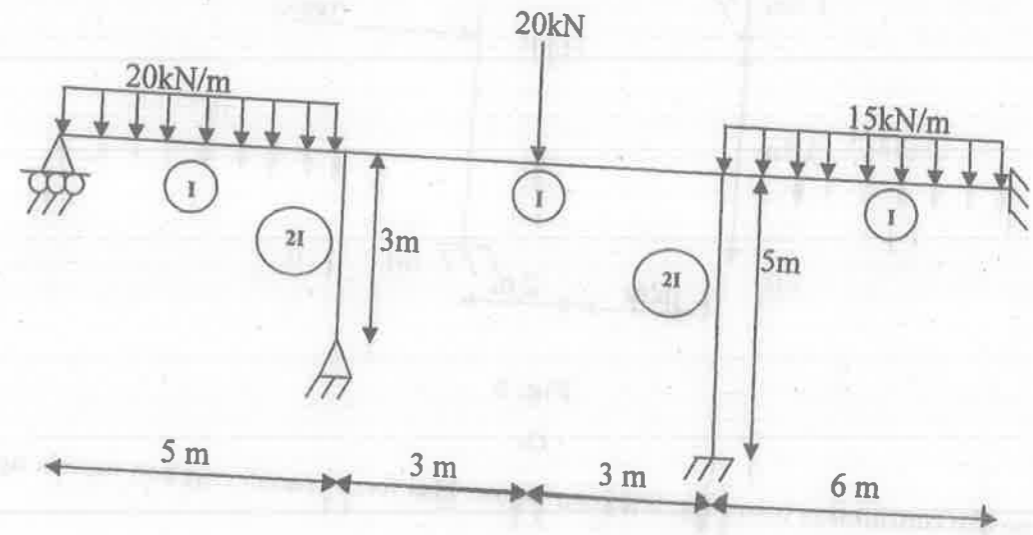

Fig. 6
14. Determine the end moment draw the moment diagram for the frame shown in fig. 6 Using moment distribution method.